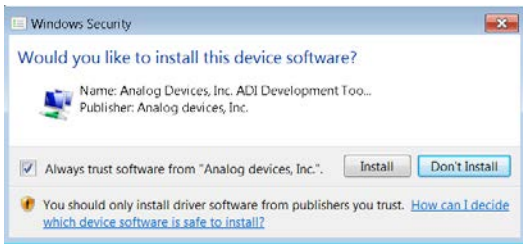
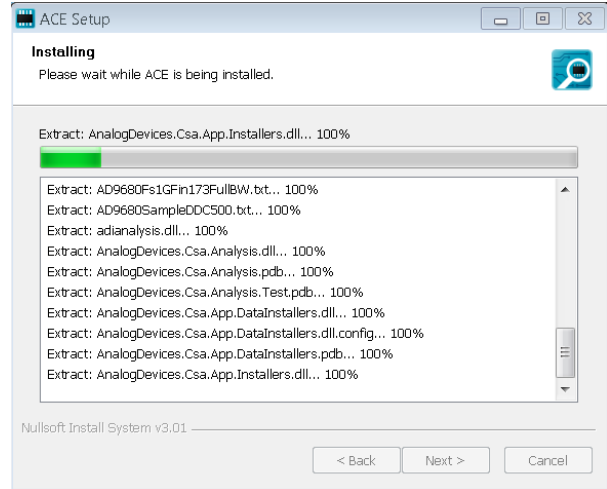

Figure 7. Windows Security Window
Figure 8. Installation in Progress
- The **Windows Security** window opens (see Figure 7). Click **Install**. Figure 8 shows the installation in progress. No action is required.